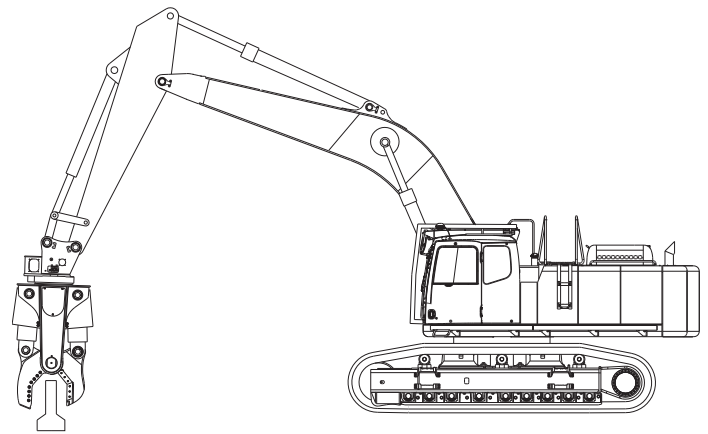

FIGURE 3-8
2. Extend the cylinders to close the jaws and lower the attachment until the jaws are placed solidly on the ground or on appropriate blocking (see figure 3-8).